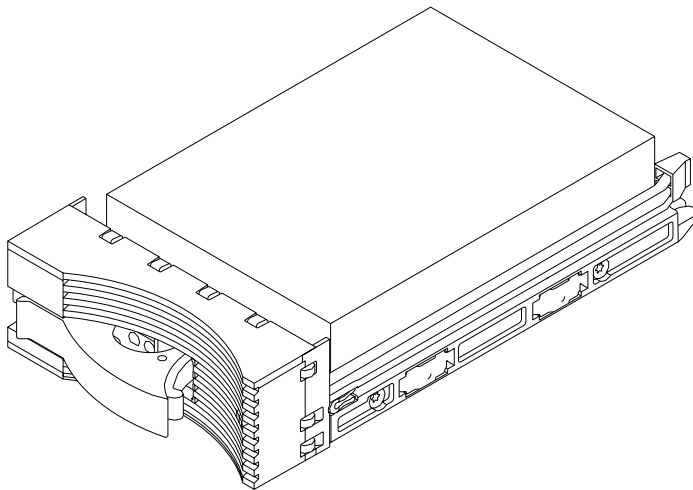

Figure 25. Placing a Disk Drive Module into a Safe Position
Step 14. Refer to Figure 25.
Step 15. Lay down the module as shown. In this position, the module rests on four supports (not visible in Figure 25).